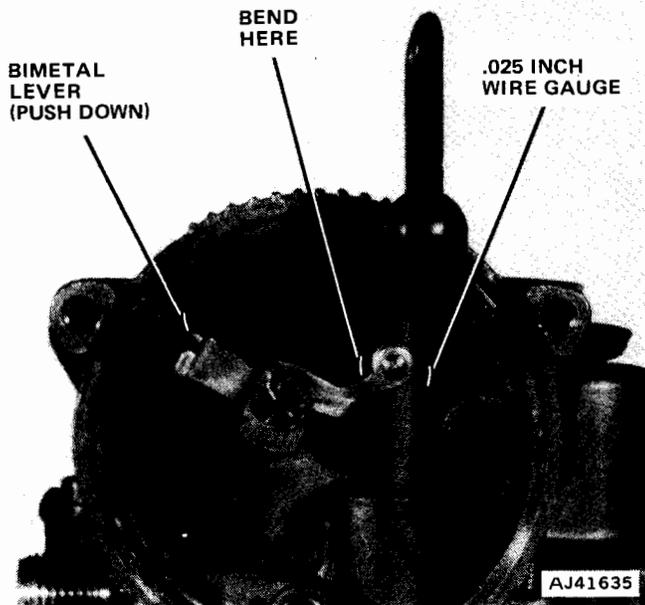

Fig. 4-29 Initial Choke Valve Clearance Adjustment
(1) Bend a 0.025-inch wire gauge at a 90° angle approximately 1/8 inch from end. Partially open throttle and close choke valve to position choke piston at top of its bore.
(2) Holding choke valve fully closed, release throttle and insert wire gauge into piston slot and against outboard side (right side of choke shaft) of piston bore. Push piston downward with gauge until bent end of gauge enters slot in piston bore. With gauge in place, push on choke shaft bimetal lever in counterclockwise direction to move piston upward, locking gauge in place (fig. 4-29).
(3) Measure clearance between lower edge of choke valve and air horn wall (refer to Carburetor Service Specifications for the correct setting).